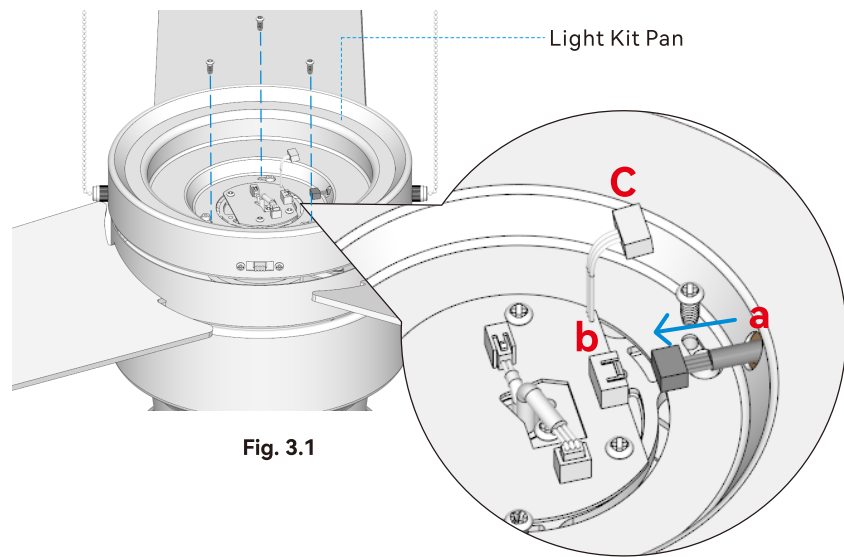

Fig. 3.1
3.3 Align the light kit pan with the PCB board. Reinstall the three light kit assembly screws that were removed in step 1. Make sure all screws are securely tightened, as shown in Fig. 3.1.